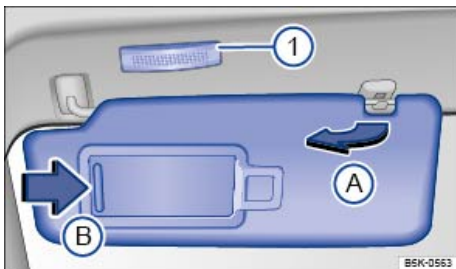

Fig. 79 In the headliner: Sun visor.
- Lift it out of the retaining clip → fig. 79 \(A\) and swivel it over toward the door.